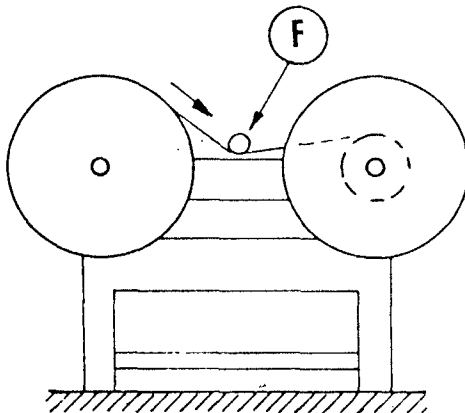

Fig. 2
Fasten the film to the empty spool taking it under (F) roller (Fig. 2).